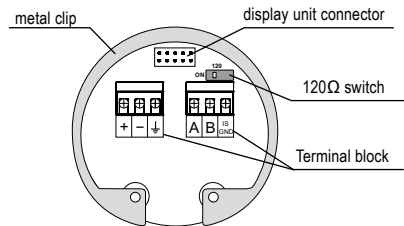

Fig. 34: Inside view of screw terminals of the level meter with Modbus GRLM-70 \_ \_ \_ - M
6. If the level meter with Modbus is involved as a terminal for RS-485, we recommend (to avoid reflections on the line) to connect 120 $\Omega$  termination resistor. This is done by moving a small lever of the switch marked 120 $\Omega$  to the ON position. On the level meters connected to the line RS-485 as an intermediate device, the termination resistors are not connected (switch remains off) in Fig 34.